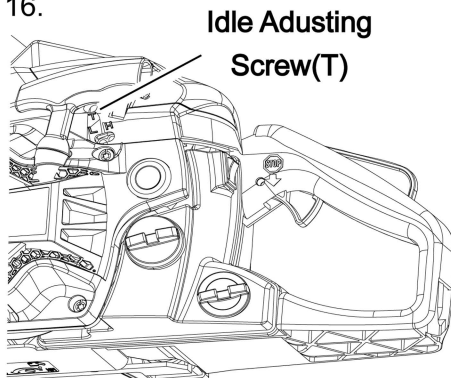

Figure 16: Idle Adjusting Screw
2. Start the Engine as detailed in Starting the Engine on page 14. If necessary, adjust Engine idle speed so Saw Chain does not rotate at idle. To adjust, turn the Idle Adjusting Screw (T) counterclockwise to lower idle speed until Chain does not turn. Refer to Figure 16.